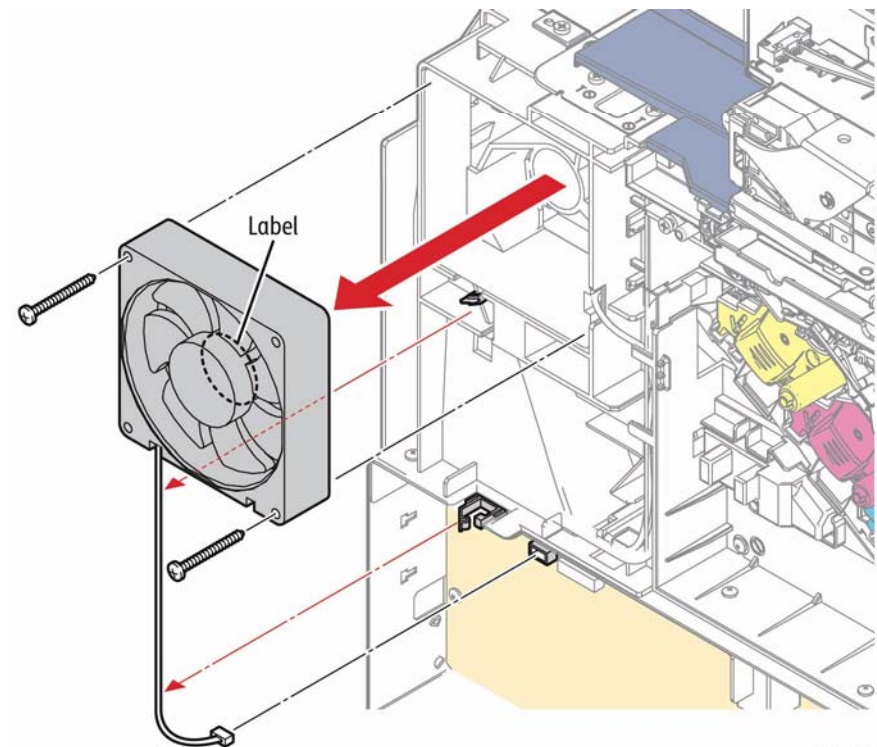

Figure 1 Remove the Main Fan
3. Refer to Figure 1 to locate and remove the two screws (silver, tapping, 30 mm) that attach the Main Fan to the printer, and remove the fan.